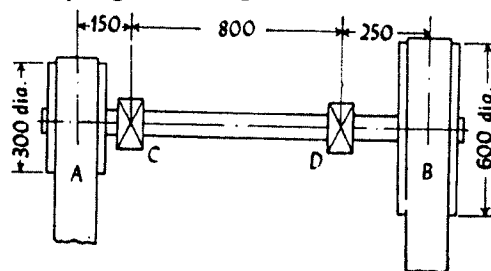

Fig.Q5(b)
- b. A shaft of uniform diameter as shown in Fig.Q5(b) carries belt pulleys at A and B with vertical belts. It is supported using ball bearings at C and D. The shaft transmits 7.5 kW at 400 r/min. The tension on the tight side of the belt 'A' is 2000 N and that on the tight side of the belt 'B' is 900 N. Pulley 'A' weighs 200 N and pulley 'B' 400 N. Estimate a suitable diameter for the shaft adopting a working shear stress of 42 MPa.